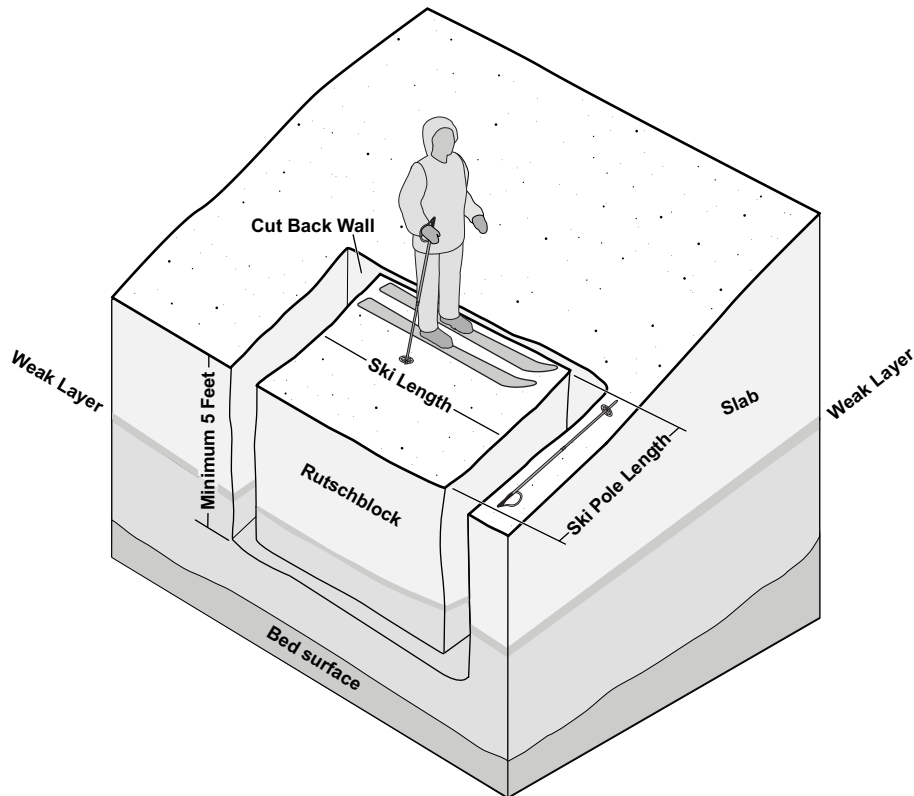

Figure 1-6. Rutschblock Test.
- Use a snow saw or a knotted length of cordage and cut the back of the wall to isolate the snow block (see Figure 1-6).